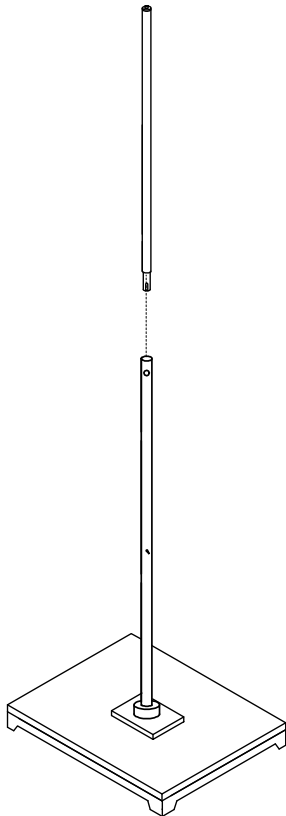

Figure 2
2. Slide top post into bottom post. (See Figure 2)